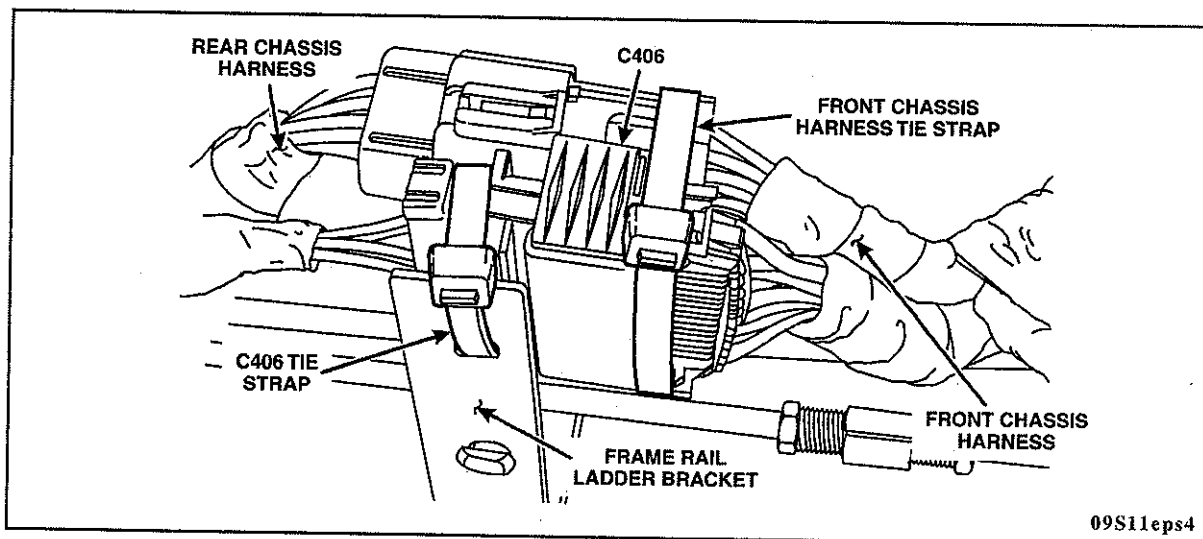

FIGURE 4
5. Position C406 back onto the frame rail ladder bracket and secure the connector and harness using two *new* tie straps as shown. See Figure 4.